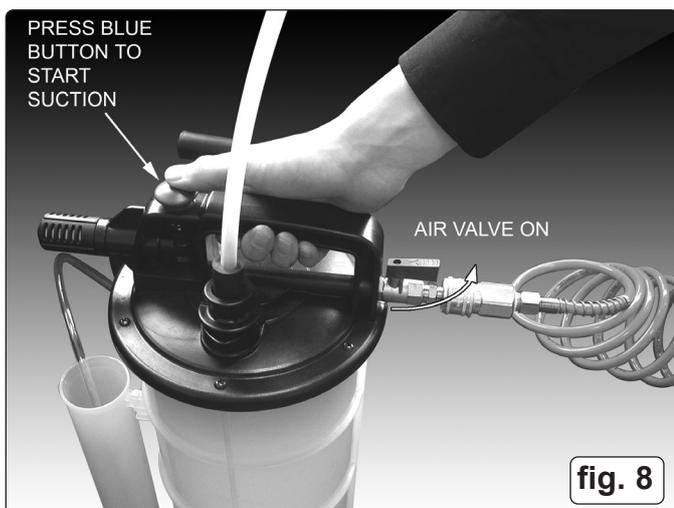

fig. 8
- 5.6. To commence draining the sump turn the air valve on and press the blue button to start the suction as shown above in fig.8. When the fluid being drained reaches the top of the tank the unit will shut down automatically. If the fluid being drained is not sufficient to reach the auto shut off mechanism the unit can be shut down manually by turning off the air valve.